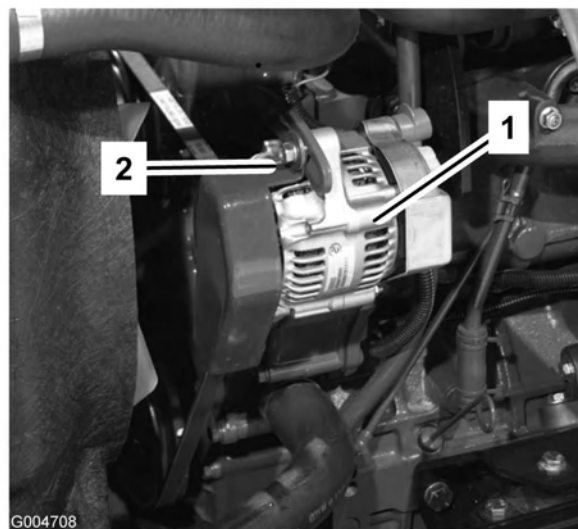

Figure 62
Check the condition and tension of the belts (Figure 62) after every 100 operating hours.
2. If the deflection is not 3/8 inch (10 mm), loosen the alternator mounting bolts (Figure 62). Increase or decrease the alternator belt tension and tighten the bolts. Check the deflection of the belt again to ensure that the tension is correct.